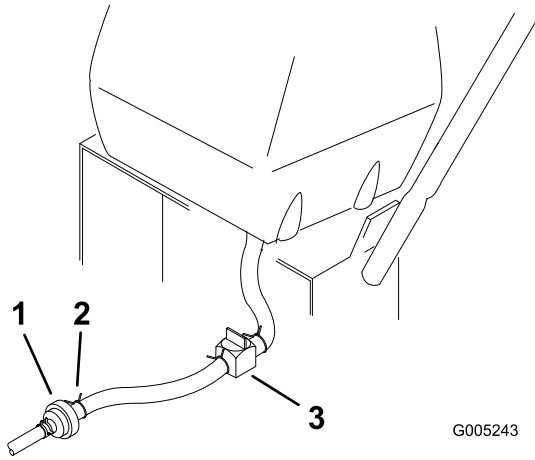

Figure 38
2. Close the fuel shut-off valve at the fuel tank (Figure 38).
3. Squeeze the ends of the hose clamp together and slide it up the fuel line away from fuel filter (Figure 38).
4. Pull the fuel line off the fuel filter (Figure 38). Open the fuel shut-off valve and allow the gasoline to drain into a gas can or drain pan.
3. Close fuel shut-off valve at the fuel tank (Figure 38).
7. Open fuel shut-off valve at fuel tank (Figure 38).